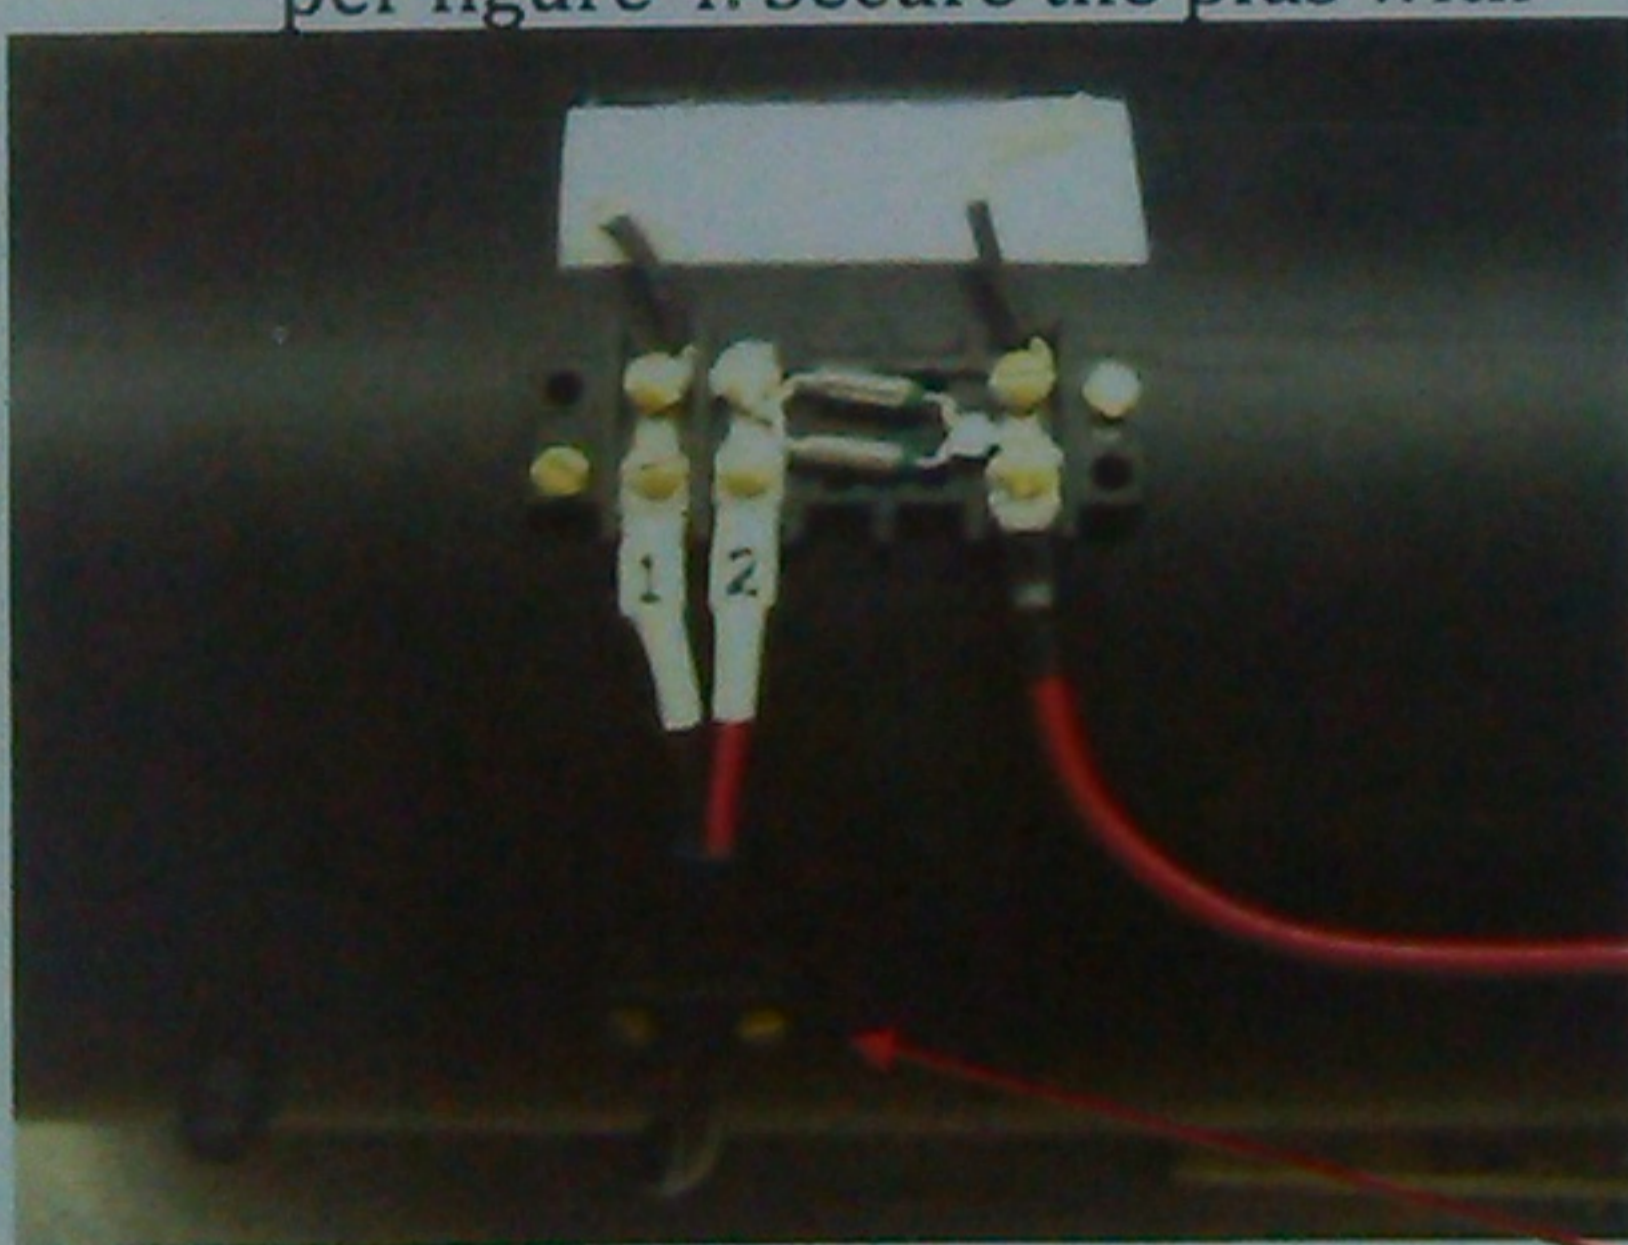
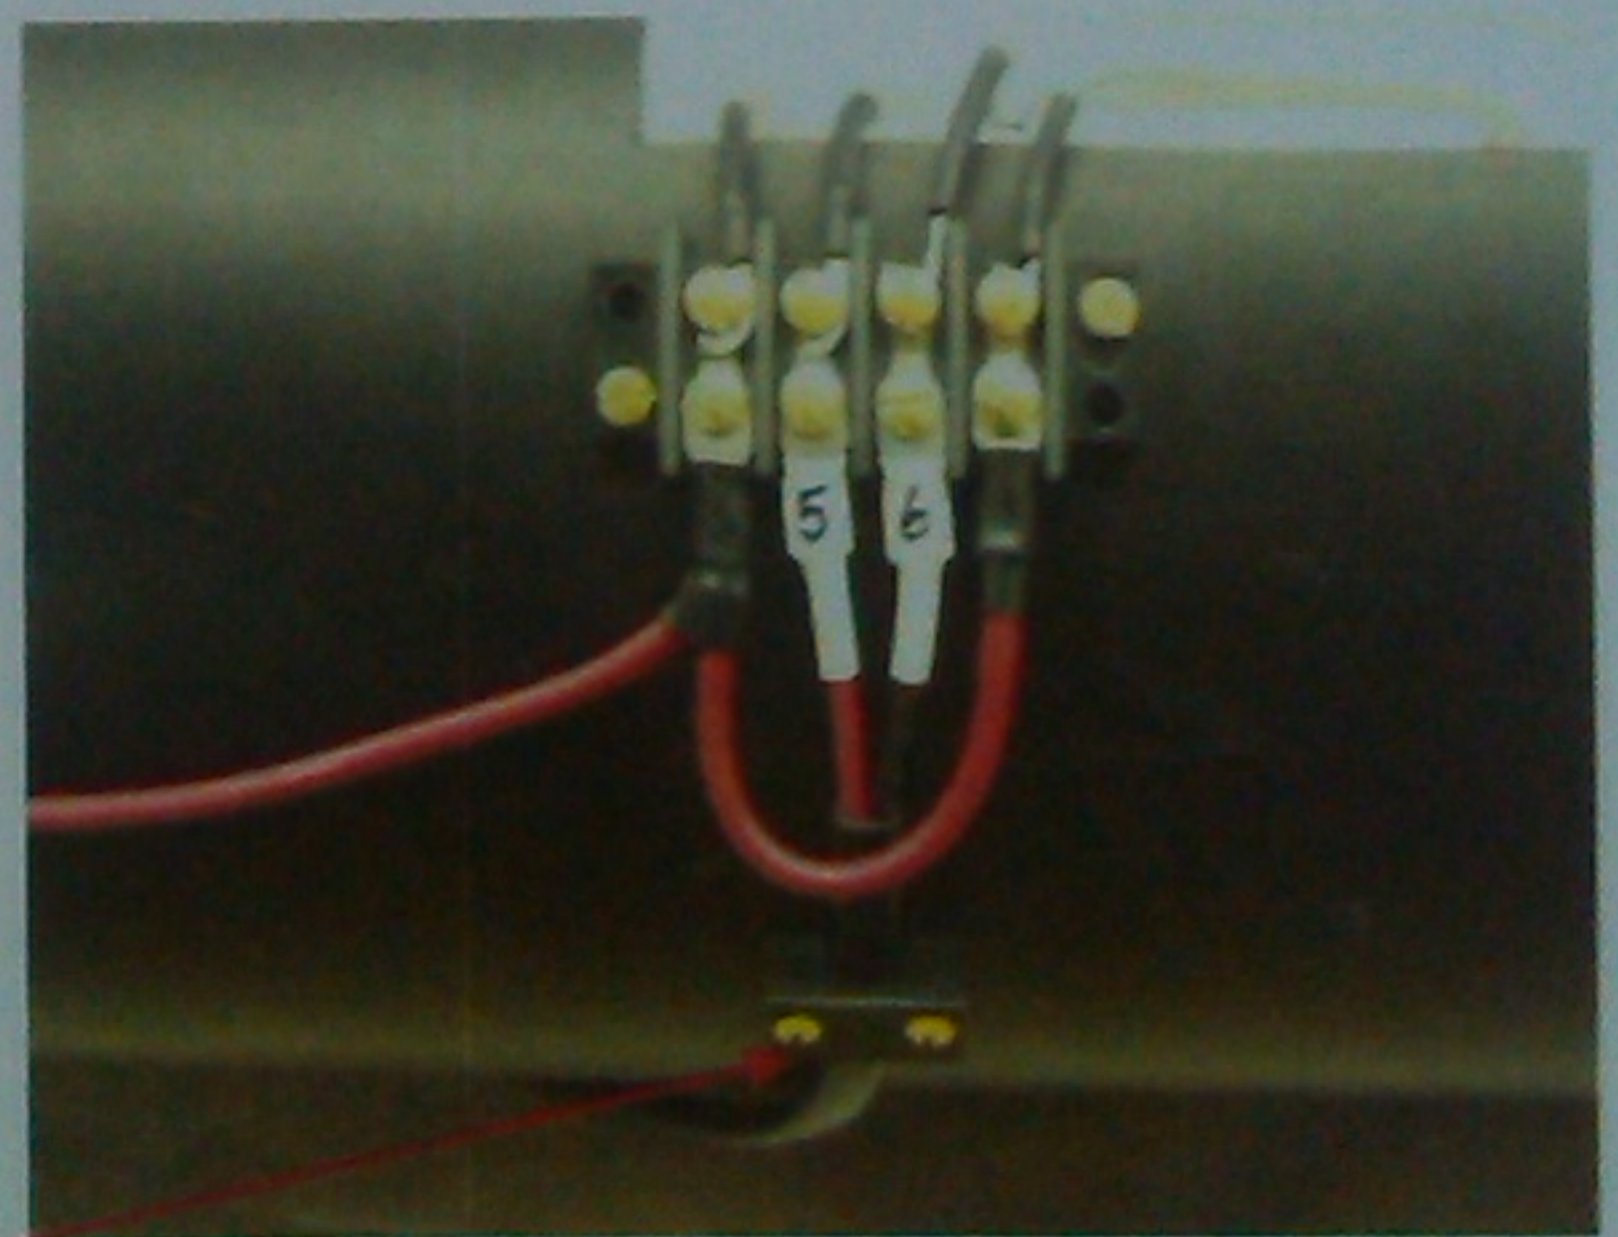

Figure 2
Figure 3
2. Remove the two black cable clamp blocks below each of the terminal blocks. Connect leads 1 & 2 to the outer terminal block as per figure 2. Connect leads 5 & 6 to the inner terminal block as per figure 3, placing lead wires under the jumper wire. All numbers should be facing up. Replace the terminal block covers, noting that the countersunk side of the plastic spacer should be facing up. Place each cable clamp block over the two cables and tighten the two screws on each block.